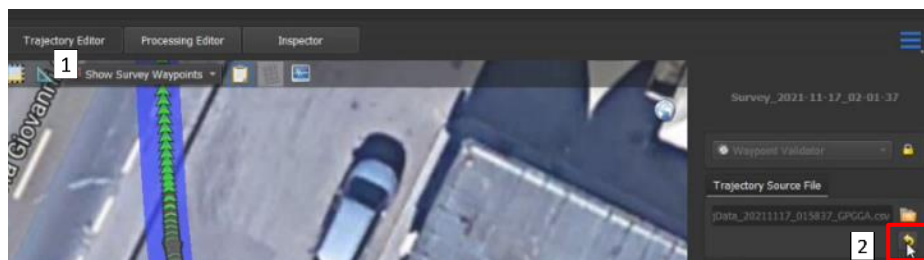

Fig. 93 – Original trajectory file restore: Option2
- The **Trajectory Source File tab** by clicking on **Trajectory Editor** Option (1 of Fig. 93) and then selecting  button from **Trajectory Source file** Tab (2 of Fig. 93).